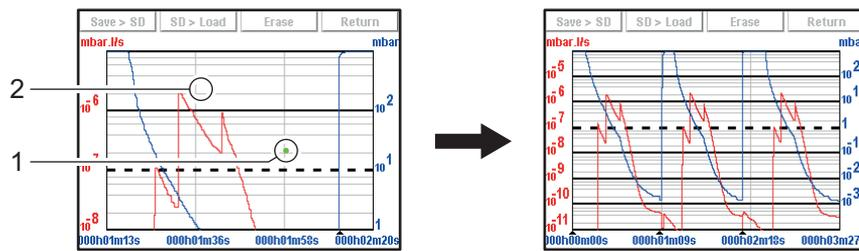

Fig. 14: Return to the original graph
→ Set the area to be reduced (ref. 1 then ref. 2 Fig. 14): return to the original graph.